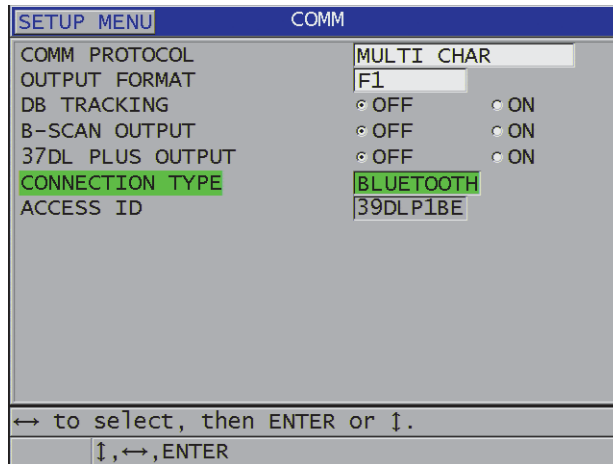

Figure 14-4 Configuring Bluetooth
4. In the **COMM** screen, set **CONNECTION TYPE** to **BLUETOOTH** (see Figure 14-4 on page 267).